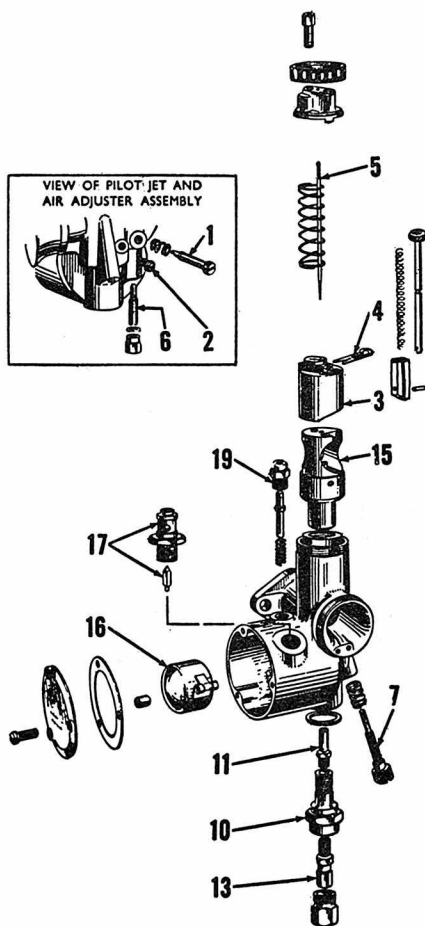
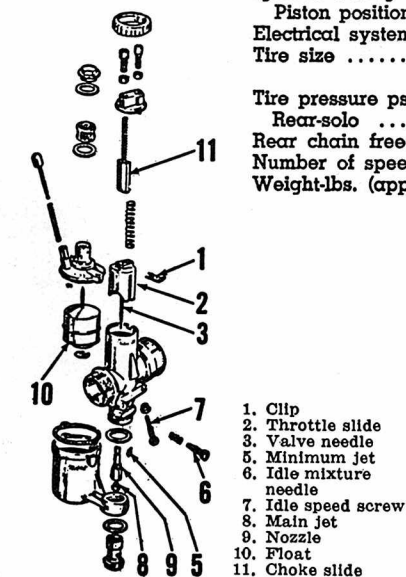

Fig. OS1-2—Exploded view of Amal carburetor typical of type used on 175cc models.
Fig. OS1-1—Exploded view of Del' Orto carburetor typical of type used on 160cc models.
**CARBURETOR.** The Del' Orto carburetor used on 160cc models is shown in Fig. OS1-1. Amal carburetor used on 175cc models is shown in Fig. OS1-2.
(6—Fig. OS1-1). Idle speed is changed by turning stop screw (7).
On Amal carburetor, idle mixture is adjusted by turning needle (1—Fig. OS1-2). Idle speed is changed by turning stop screw (7).